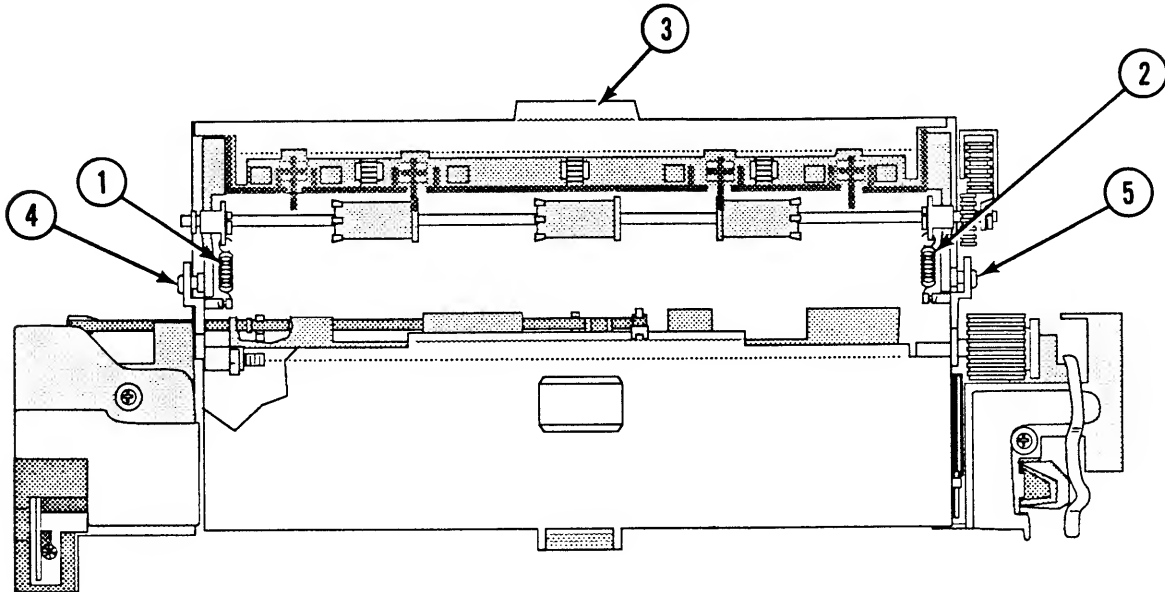

FIGURE 21
2. Unhook the two tension springs (Figure 21, #1 and #2) between the fuser delivery assembly (Figure 21, #3) and the bottom of the fuser assembly.
3. Remove the two Phillips screws (Figure 21, #4 and #5) that secure the fuser delivery assembly to the fuser assembly. Remove the fuser delivery assembly.